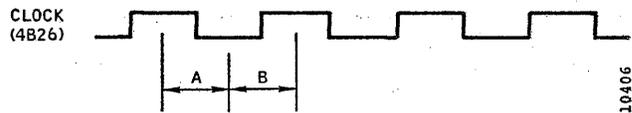

Figure 3-7. Write Clock Phase Check
4. Determine from the scope display whether NRZDATA transitions on channel 2 are occurring during period A or period B, as shown in Figure 3-7, and so note.